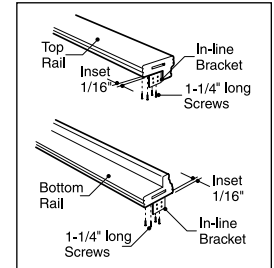

fig. 6
Step 8: Locate in-line brackets on underside of bottom rail. Using an in-line bracket as a template, inset the bracket 1/16" from end and on-center of rail, mark the four hole locations. Pre-drill with 1/8" drill bit, 1-1/4" deep, drilling into second layer of material, and attach with 1-1/4" screws (Figure 6). Repeat for the other end of rail.
Locate in-line brackets on the bottom of the top rail - placing the bracket on-center of the flat area and 1/16" from end - mark the four holes. Pre-drill with 1/8" drill bit, 1-1/4" deep, drilling into second layer of material, and attach with 1-1/4" screws (Figure 6). Repeat for the other end of rail.